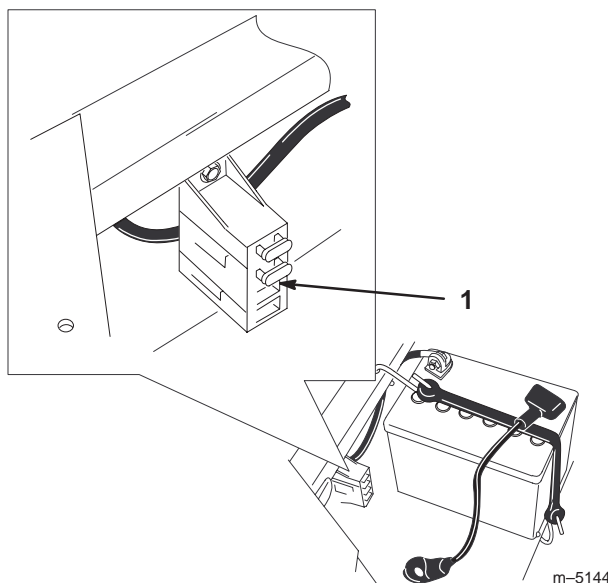

Figure 7
1. Install the 10 amp. fuse into the fuse block in the slot shown in Figure 7.